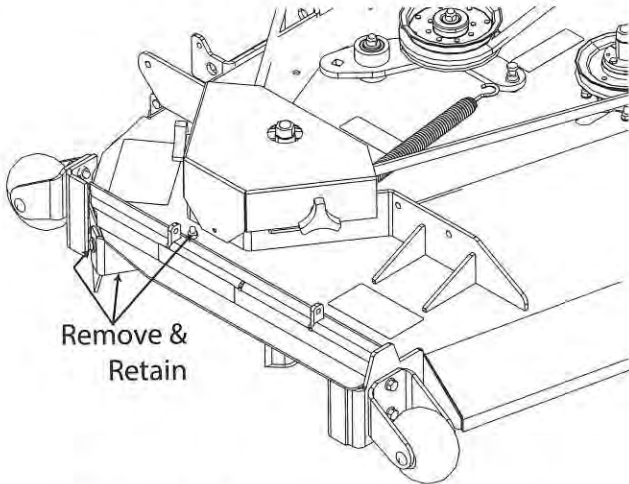

Figure 3-15. Removing the Turbo Baffle
3. Remove the turbo baffle from the cutter deck. See Figure 3-15.